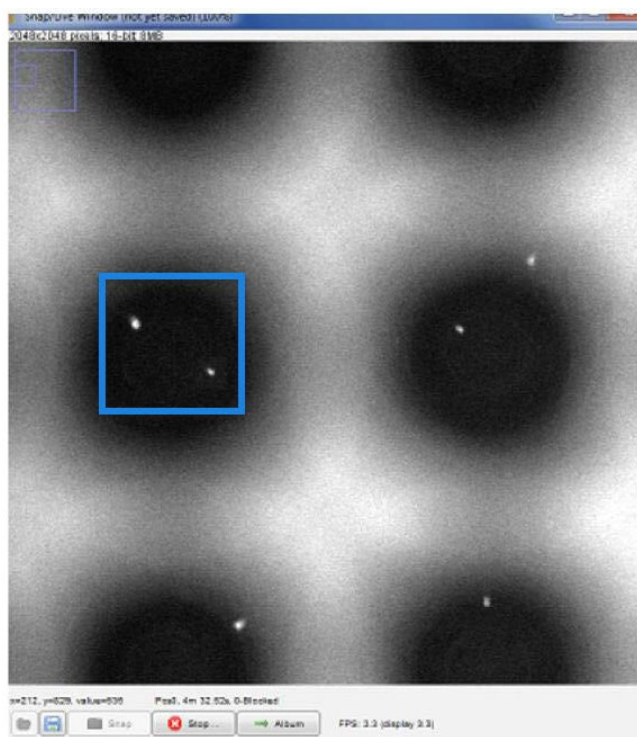

Figure 21. Adjusting the focus on single cells.
- c. Use the zoom function to zoom in on a well containing one or a few cells that are off center (i.e., not in the center of a well; Figure 21, below).
- d. Adjust the fine contrast knob back and forth to find the optimal focal point for a cell (smallest, sharpest view) or the optimal focal point between two cells on the Z-plane (blue box in Figure 21, below).